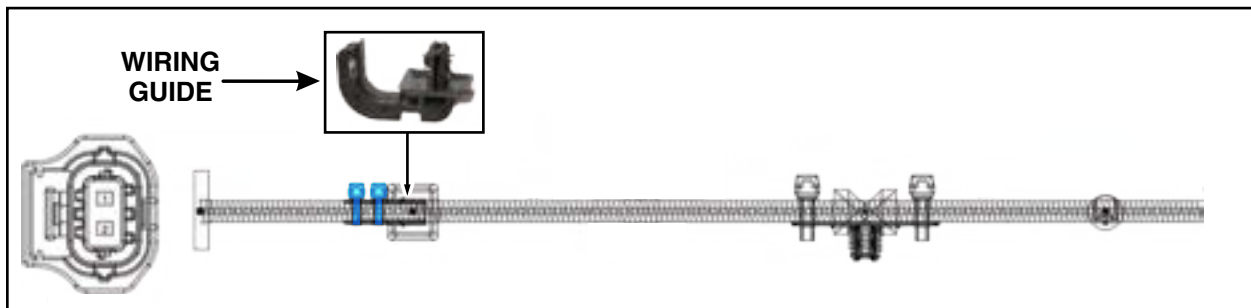

FIGURE 1
4. Detach the wiring guide and remove the tie straps securing the retainers to the harness. See Figure 1.